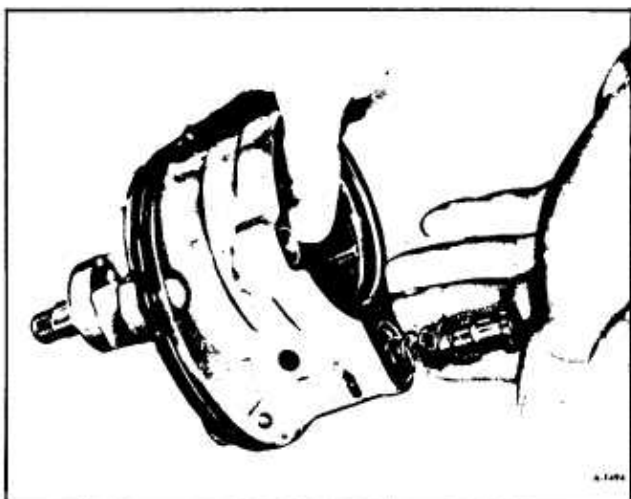

Figure 12-Removal of Relief Valve
7. Remove pump from vise and invert. Flow control valve and valve spring will fall free. (figure 12).